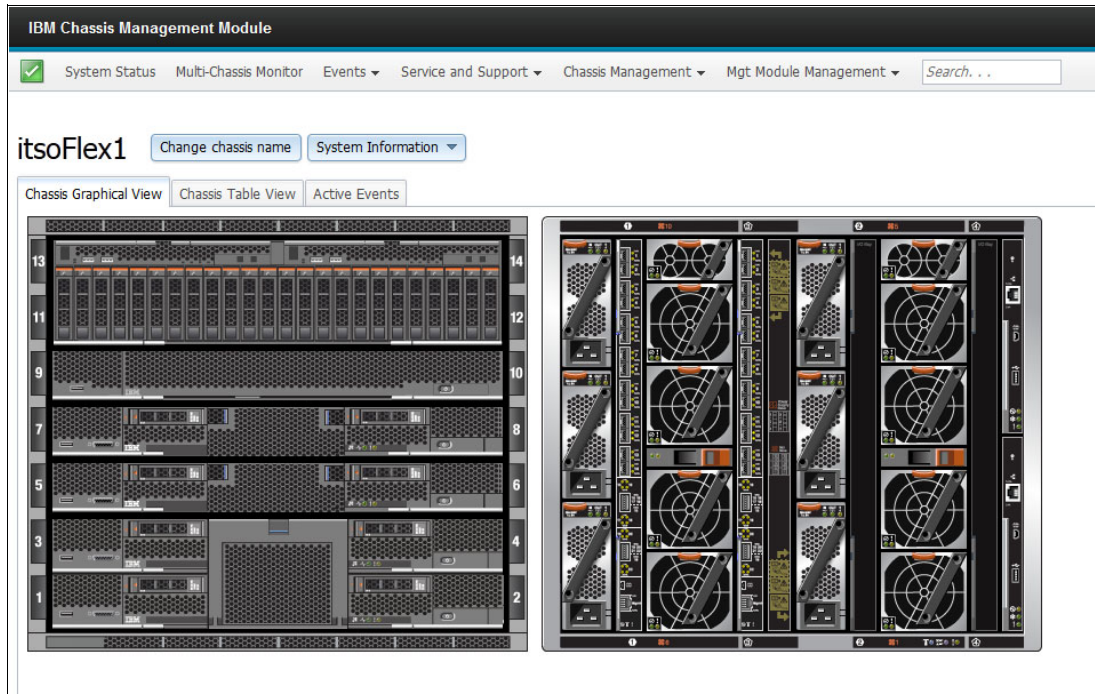

Figure 5-46 4-socket scalable connector attaching nodes in bays 1-4
3. After the scalable connector has been installed, verify that the CMM chassis graphical view reflects the change. Figure 5-46 on page 111 shows an example where a 4-socket connector has been installed (which can be used with either the x480 or the x880).